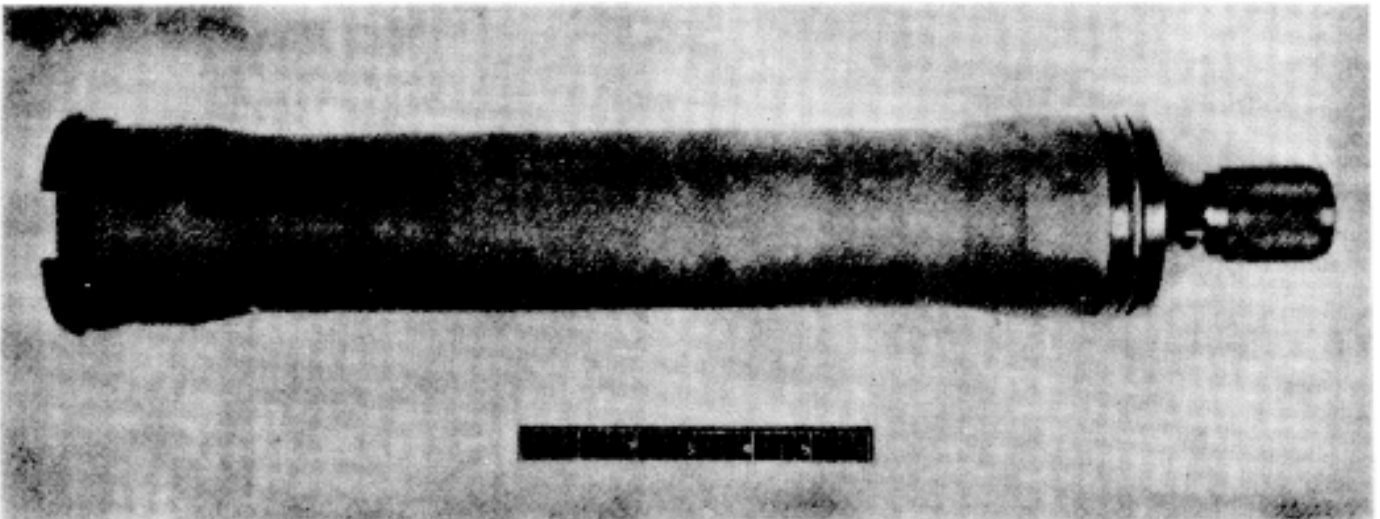

Figure 16. 7.62mm subcaliber gun, M49A1.
a. The subcaliber device (fig. 16) for the 90mm recoilless rifle permits realistic gunner and loader training and eliminates the use of expensive service ammunition. Because targets are not destroyed as they would be if service ammunition were used, range maintenance is reduced.